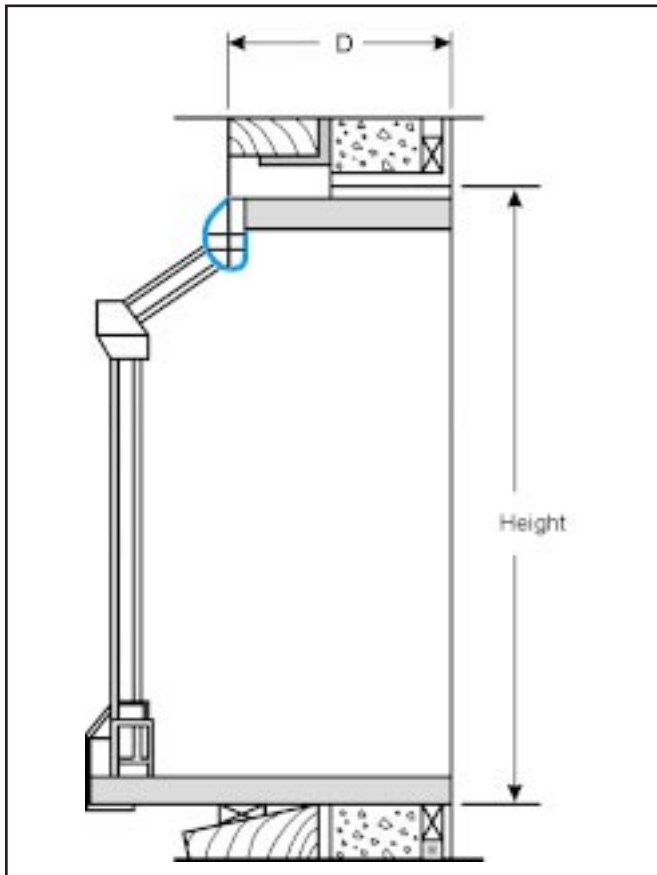

Figure 17-4 Garden and Green House Window – Side View
Measure the overall wall depth (D) from the interior surface (e.g., drywall) to the finished exterior surface (e.g., wood siding, stucco, brick veneer). That is the minimum sideboard depth of the new garden window (see Figure 17-4).